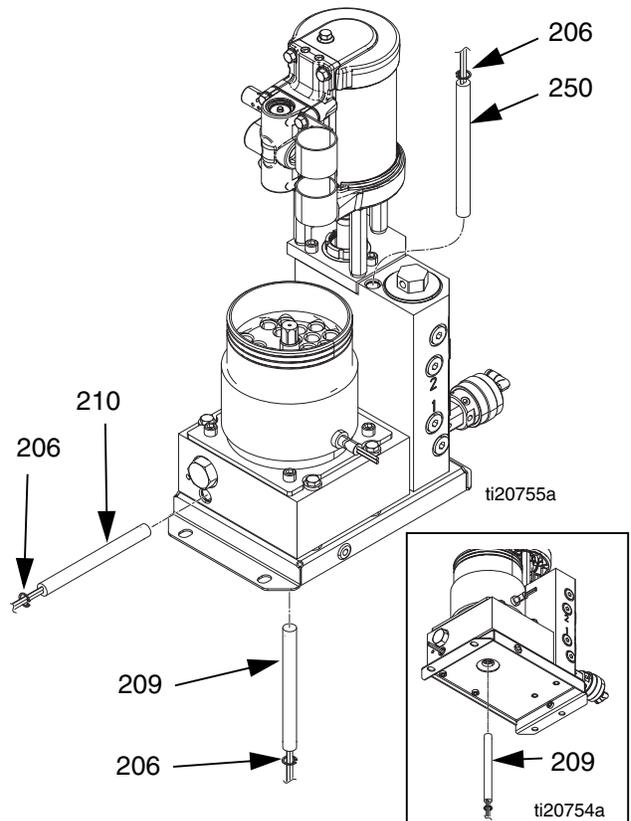

FIG. 39
Disassembly (see FIG. 39):
Reassembly (see FIG. 39):
- 2. Install heater rod then install heater rod retaining ring (206). See FIG. 39.